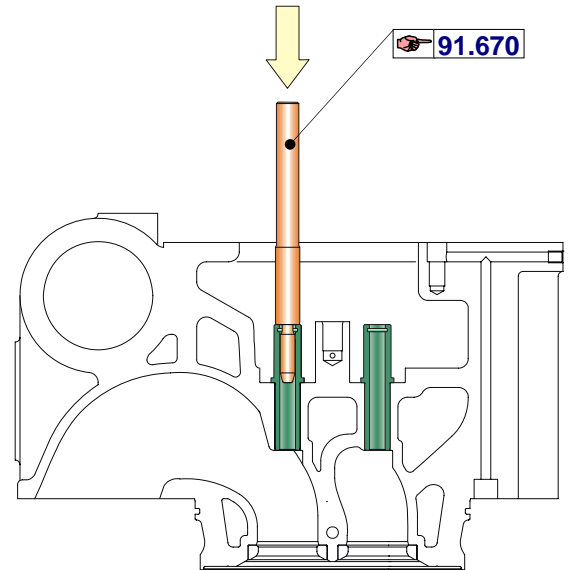

Fig. 4 Mounting of valve guide
5. Fit valve guide by means of the tool  91.670 with hammering softly on the tool as shown in fig 4.